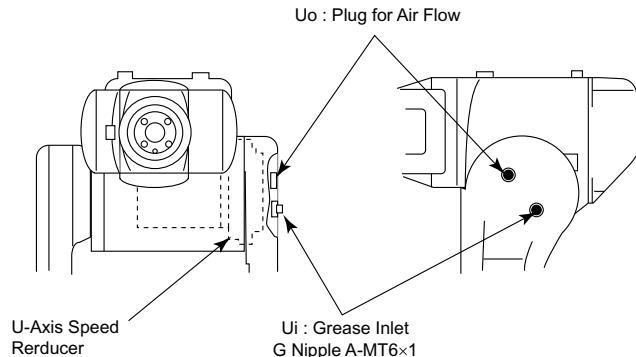

Fig. 26 U-Axis Speed Reducer Diagram
■ Grease Replenishment (Refer to " Fig. 26 U-Axis Speed Reducer Diagram ".)